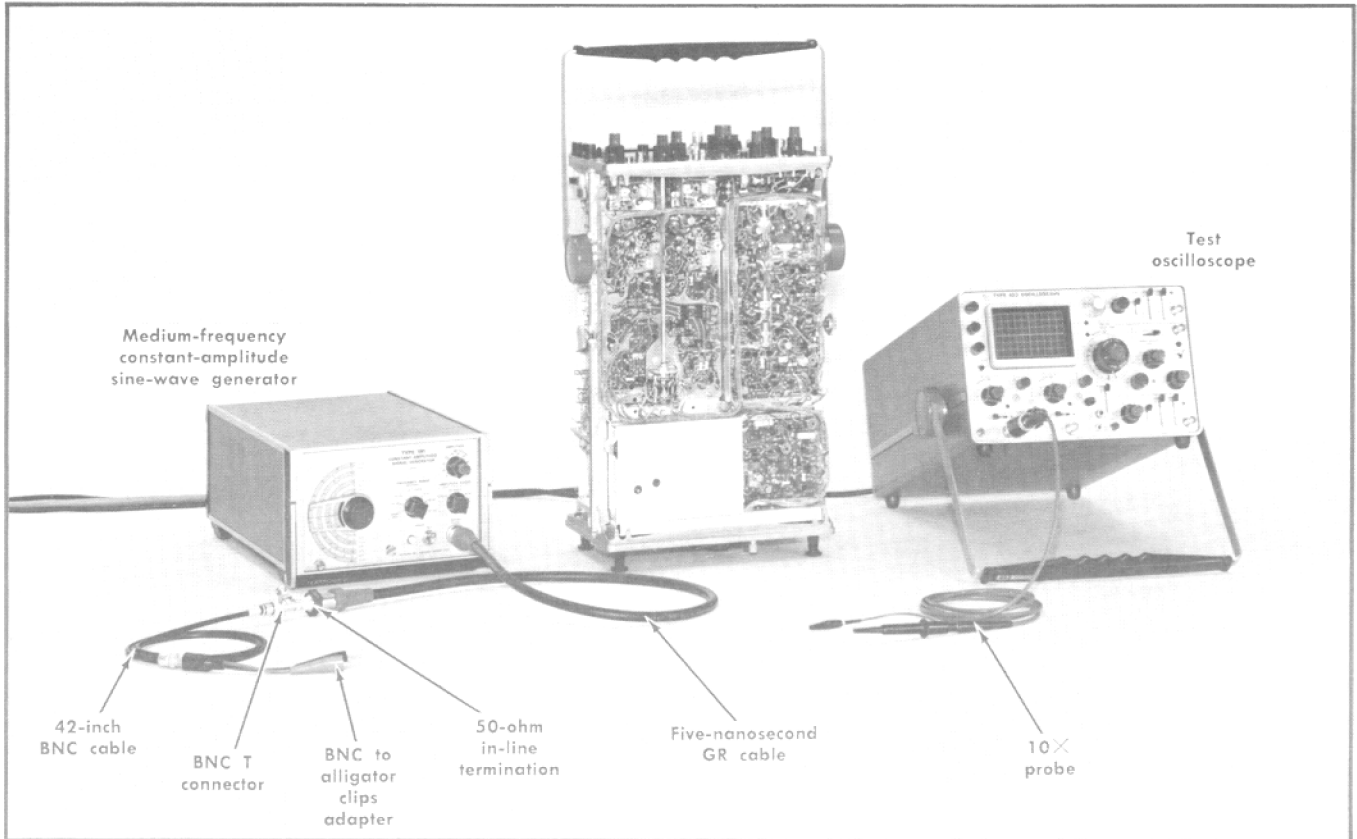

Fig. 6-67. Initial test equipment setup for steps 81 through 85.
- a. Test equipment setup is shown in Fig. 6-67.